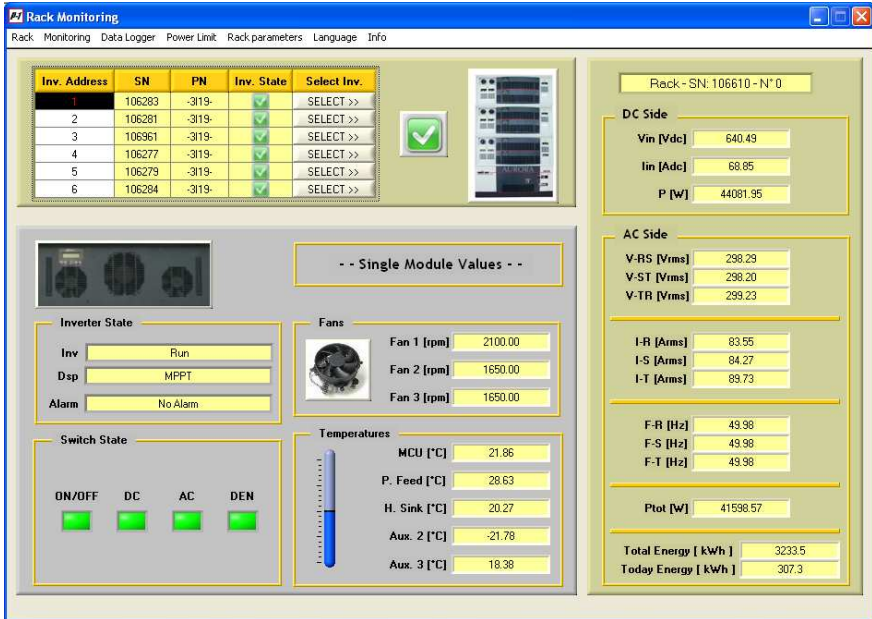

Figure 16-11: Rack Monitoring
➤ By double-clicking on the tower image you can access the rack management menu (Figure 16-11) in which it is possible to control and identify an alarm, and to gain access to the single module.
- ➡ By double clicking on the image of the rack, you return to the rack interface menu (Figure 16-11).